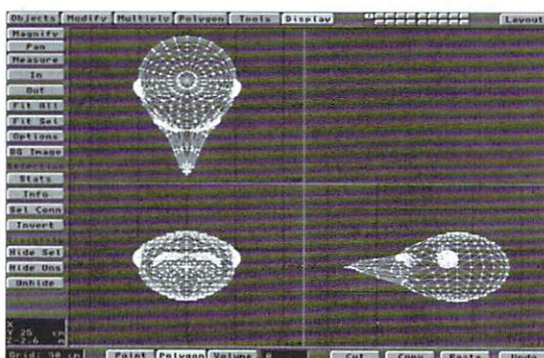

Figure 4: The final Bird Head.
•Select the center ring of polygons at the outer side of the eye, bring up the Surface (q) requester and name this "Bird_EyePupil". Now select the next outer ring and name it "Bird_EyeWhites". Finally, use the Mirror (Multiply panel) tool from the Face View to make the right eye. Save out the complete group of objects as "Bird_Head.lwo". Refer to Figure 4 for a look at my completed Bird Head object.